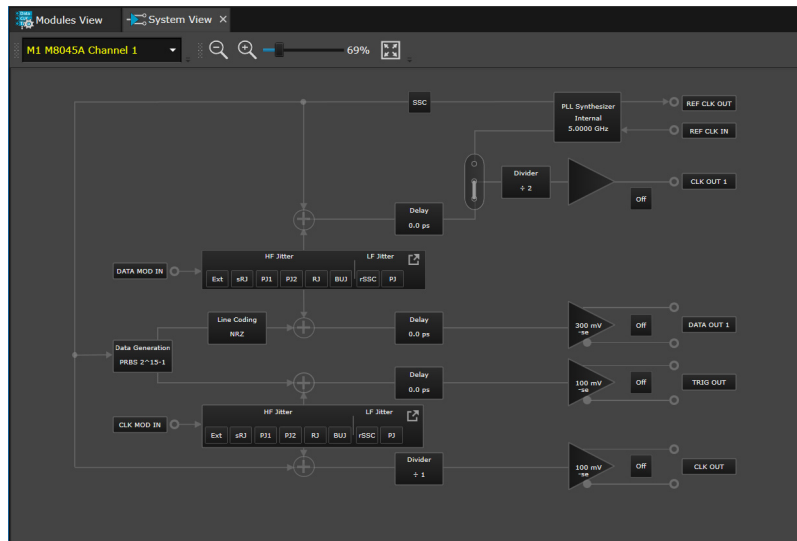

Figure 19 Synthesizer parameters
- b Click on the **PLL Synthesizer Internal** block as shown in Figure 19 on page -49 to display the **Synthesizer** properties.